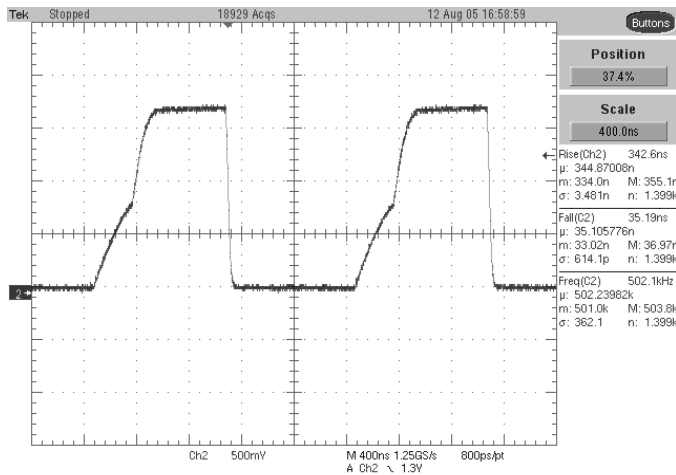

Figure 13: SIM_I/O waveforms / on-board Open-Drain configuration, SIM_V_{CC} = 1.8 V & C_{OUT} > 33 pF
- I/O and SIM_I/O are data signals (Figures 13 and 14).